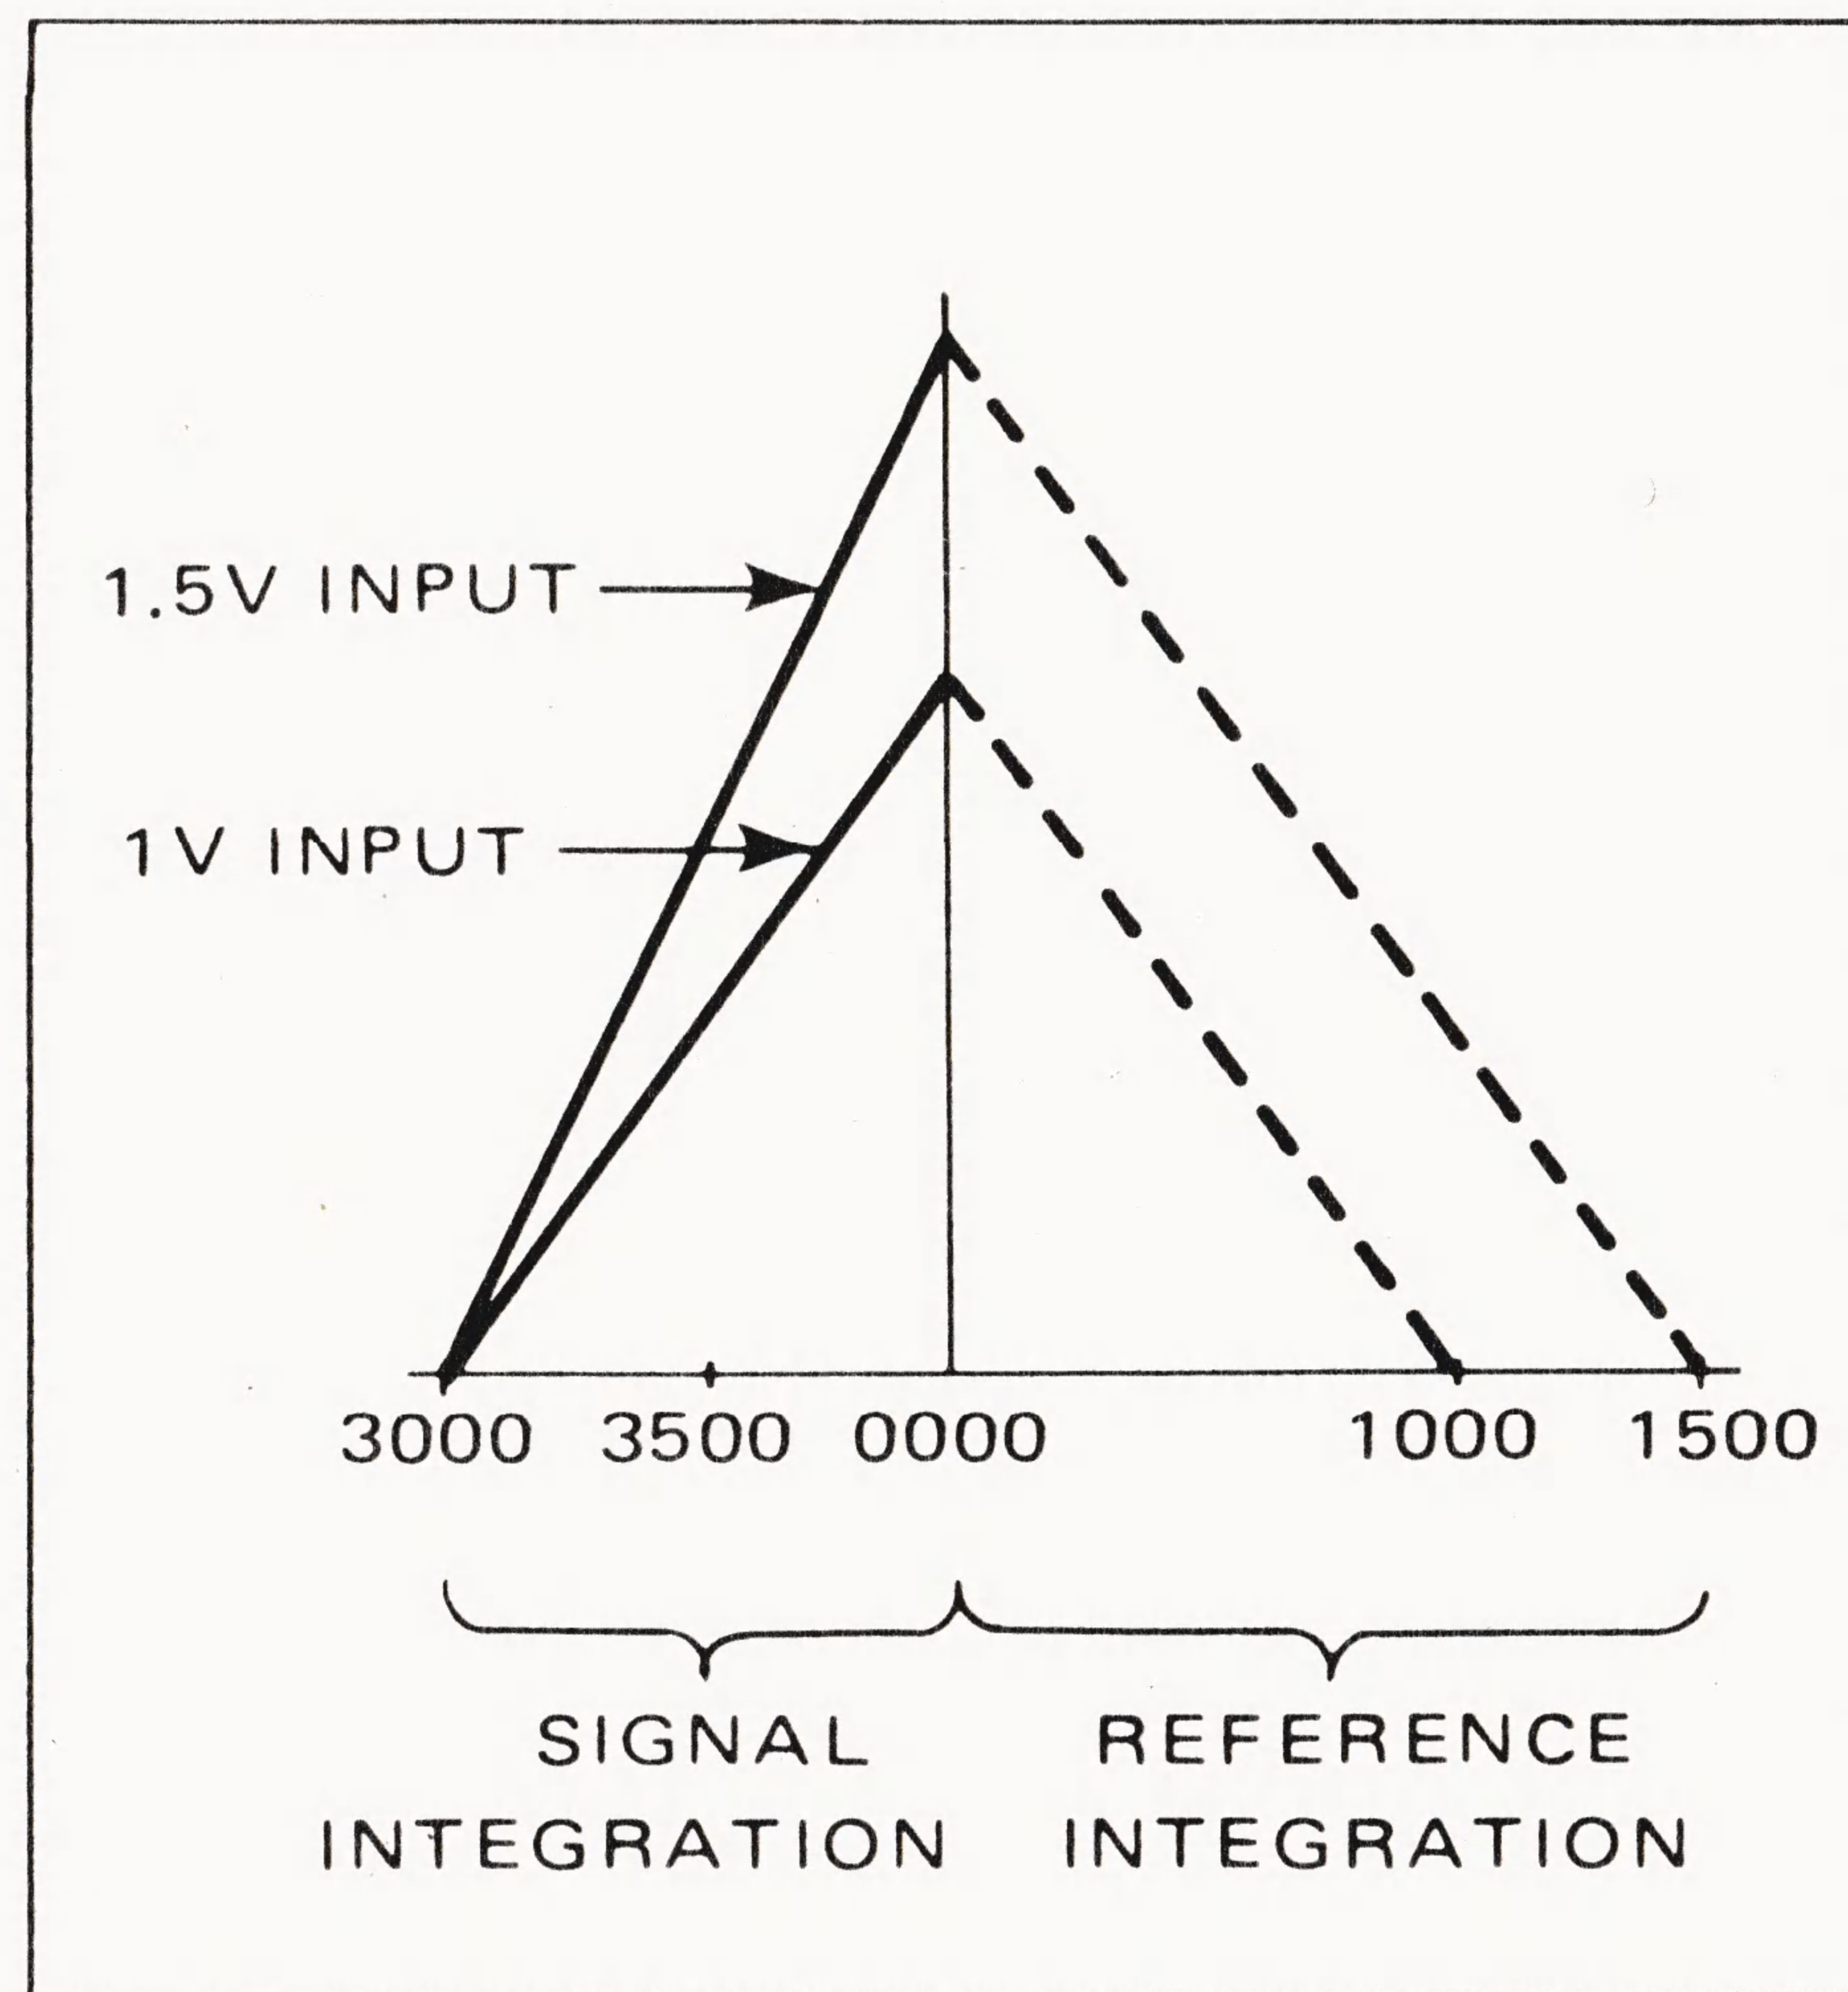

Figure 3.2 - Integrator Output
3.16 Integration is a two phase process and is shown graphically in figure 3.2. The first phase is called signal integration. This is a clock and counter controlled time period of 125 ms, or the time required for the counter to advance from 3000 to 0000 (1000 counts). During this period the conditioned signal from the input is converted to a proportional